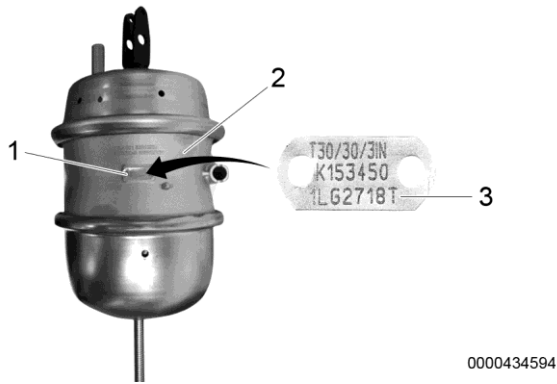

Figure 1. Spring Brake Assembly
4. Inspect rear axle(s) spring brake assemblies (Figure 1, Item 2) for suspect lot numbers (Figure 1, Item 3) 1LF1818T or 2LF1818T found on identification tag (Figure 1, Item 1).